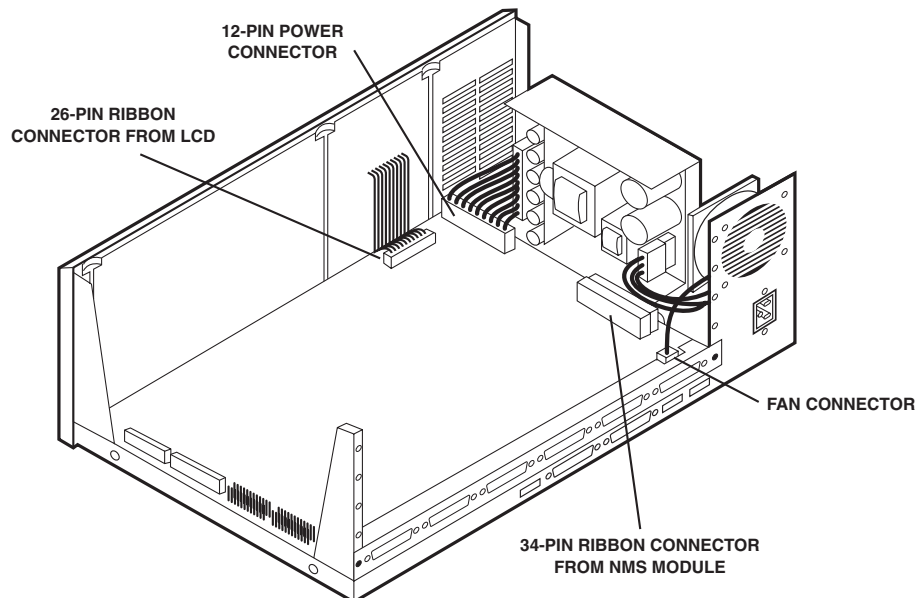

Figure 5-10. Disassembling the CCM.
3. Disconnect the 12-pin power supply harness from the CCM (see **Figure 5-10**).